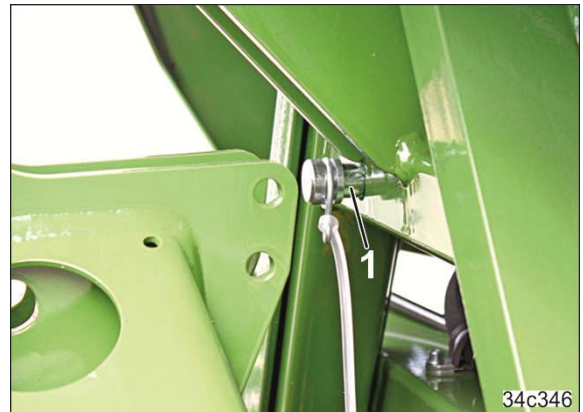

Fig. 128
15. Position the coupling triangle with a pin (Fig. 128/1).